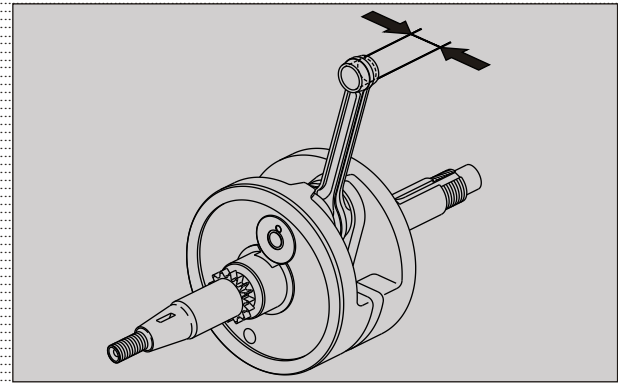

Fig. 3.158
- Measure internal diameter (ID) of the connecting rod small end. If ID is more than the service limit, replace the crankshaft assembly with a new one. (Fig. 3.158)